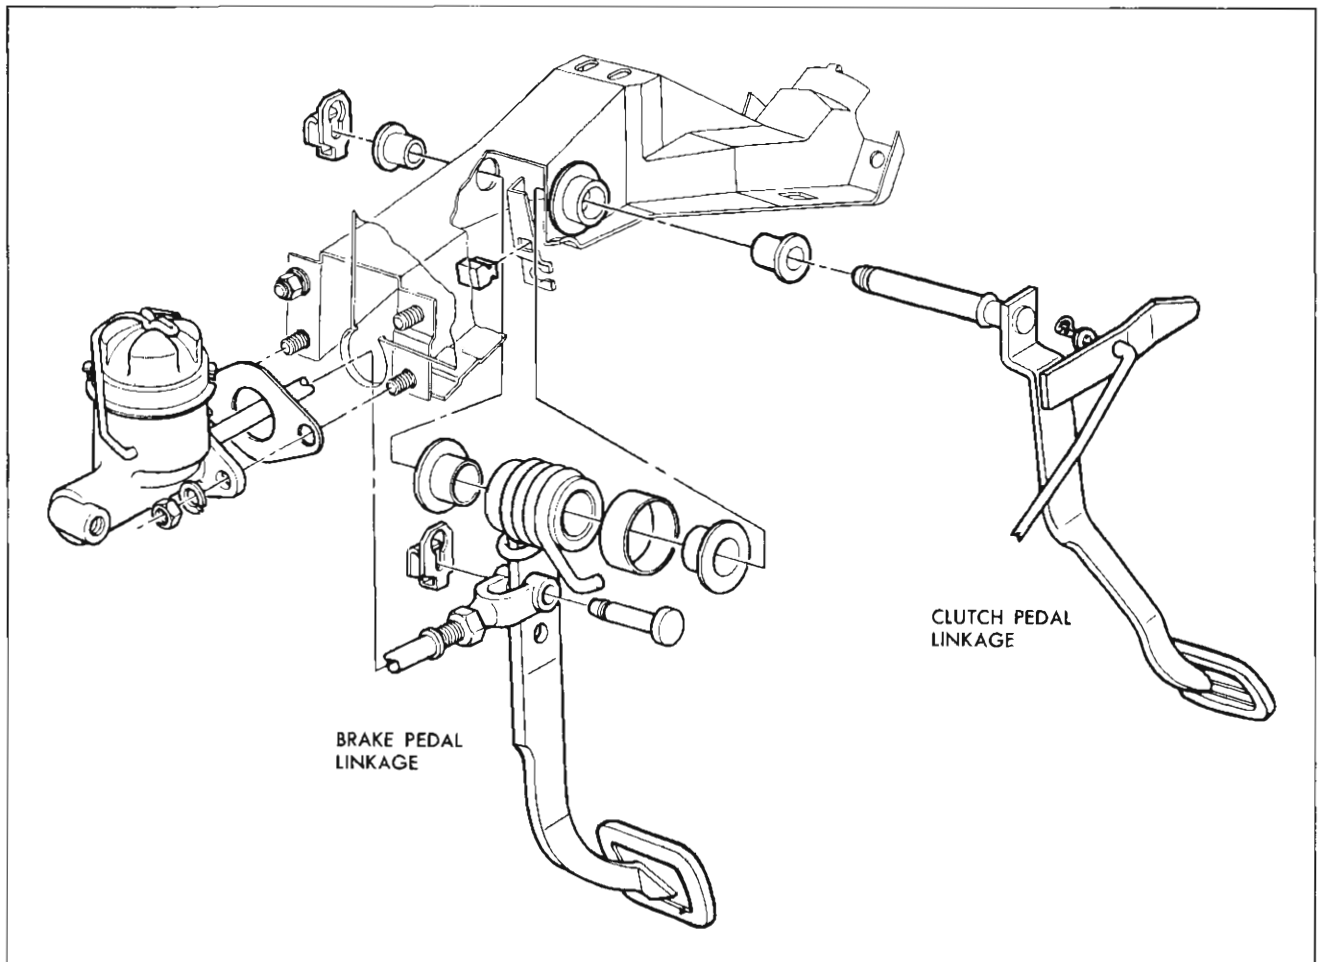

Fig. 15—Clutch and Brake Pedal Installation
2. Remove clip and clevis retainer pin from brake pedal arm (fig. 15).